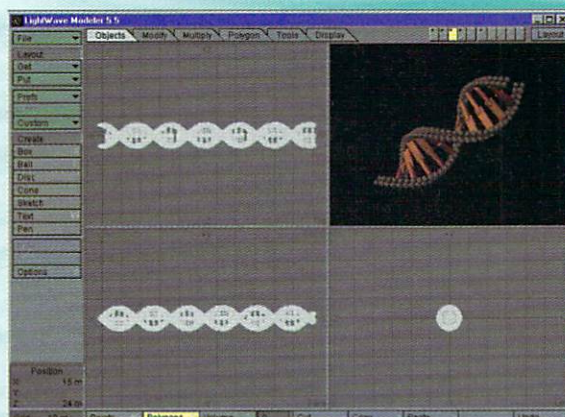

Figure 3
4. We are now ready to lengthen the DNA strand through Clone [ctrl - c]. We want to make two clones of our object so put 2 in the Number of Clones input field. We determined the offset to be 37 meters for the x-axis, so enter 37 in the X Offset input field. The final value will add a slight rotation on the x-axis to line the clones together. Since we removed the first inner bar and measured to the right side of the last inner bar, the distance each clone will be offset (37m) is the length of each strand minus one-third the distance between each inner bar. Therefore, since the angle of each bar is 30 degrees more than the last one, we need to make our cloned DNA spin 10 degrees per clone. So enter 10 for rotation on the x-axis. Leave all other numbers alone and click OK. After a few seconds you should have a long DNA strand. Pressing [a] should give you Figure 3.